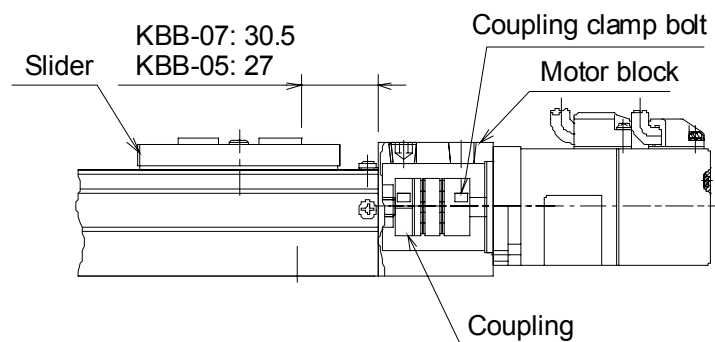

Fig. 5.6–5
- (10) Turn the power on again, return the servo gain values (position and speed) to the previous values, then specify "2" for the home return method of Parameter 2.
- (11) After the power is turned off, then on again, execute the home return and make sure that the actuator is as shown in Fig. 5.6–5.
- (12) Clamp the disconnected hexagon socket head taper screw plug into the screw hole on the motor block to stop the hole.